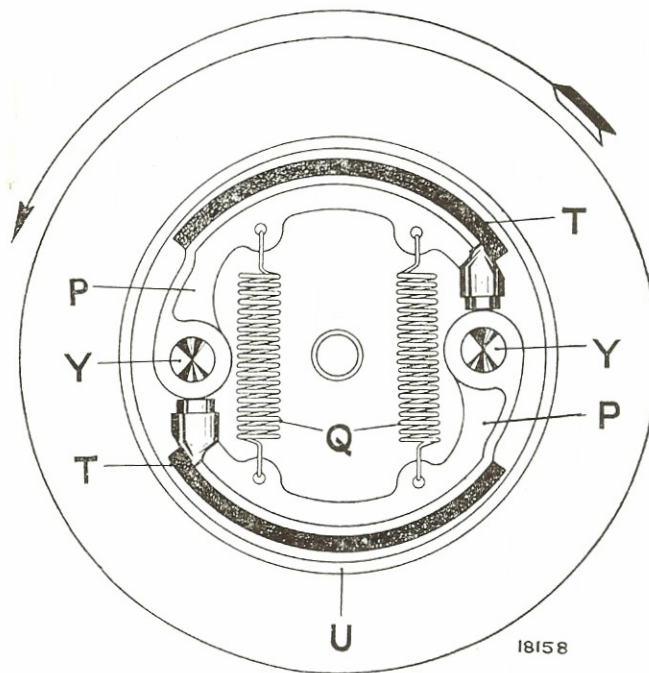

Fig. 1. Main Driving Clutch
This clutch (Fig. 1) is of the automatic type and comes into operation as the engine speed increases. To delay the action of the centrifugal clutch shoes (P), springs (Q) are fitted which allow an engine speed of up to 500 r.p.m. without engagement. As the engine speed increases above this, the clutch shoes gradually take up the drive. Should an overload be put on the clutch, the tendency will be for the clutch to pull down the engine speed and then slip without stalling the engine. The clutch shoes are lined with bonded Ferodo linings (T) and to detach the shoes release the Allen screw in the clutch ring boss, remove circlip from clutch shaft and slide clutch ring (U) back. The shoes (P) can now be slid off the studs (Y). When replacing the shoes care must be taken to see that the hinged ends point towards the direction of running. It is essential to use the correct lining and method of riveting for this purpose.